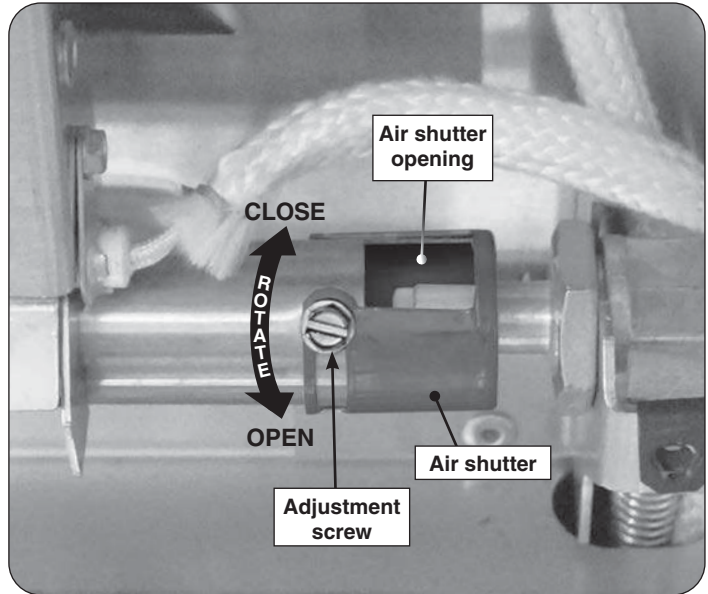

Fig. 42-1 Backburner air shutter adjustment detail
2. Loosen the adjustment screw with a flathead screwdriver, then carefully rotate the shutter to open or close it. See Fig. 42-1 for details.